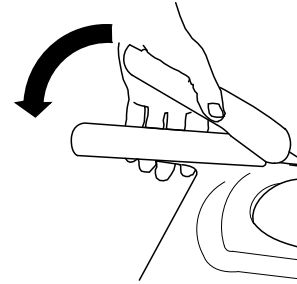

Figure 8
3. Squeeze the left (traction) lever to the handgrip (Figure 8).
6. Squeeze the left (traction) lever to the handgrip (Figure 8).